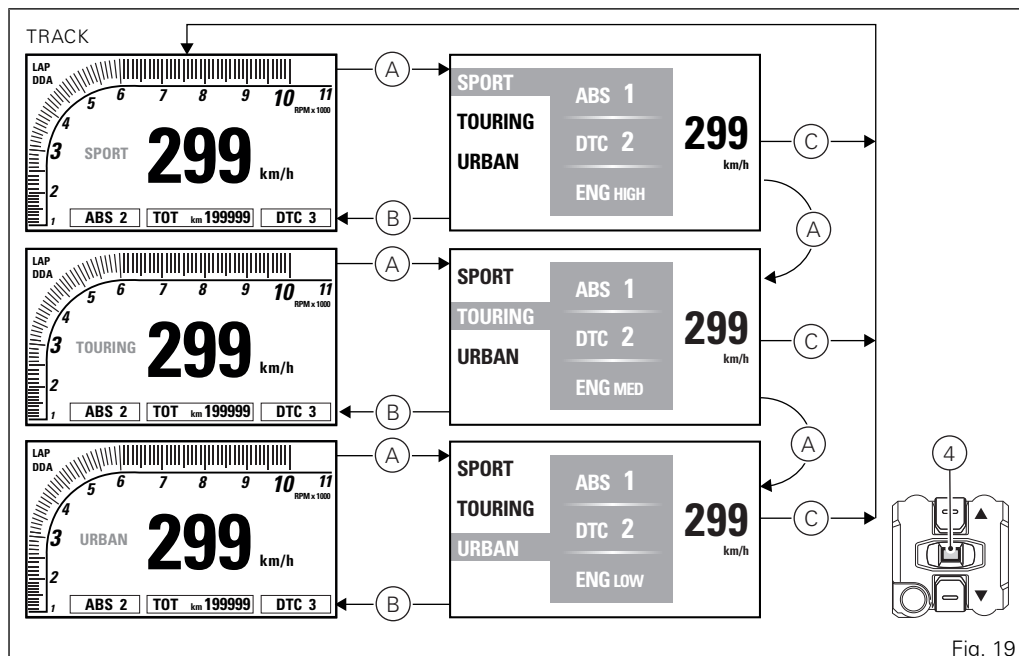

Fig. 19
Displayed information includes the values stored for each single Riding Mode. The stored settings may be the factory ones (Ducati default settings) or the ones customised by the owner. Any time CONFIRM MENU button (4) is pressed, the selected riding mode is highlighted together with the associated parameters (A, Fig. 19).
Once the desired riding mode is highlighted, confirm the selection by holding down the CONFIRM MENU button (4) for 2 seconds: the new riding mode selection is stored and the standard screen (B, Fig. 19) is displayed.
Once the desired riding mode is highlighted, if the CONFIRM MENU button (4) is not pressed within 10 seconds, the new riding mode selection is not stored and the standard screen (C, Fig. 19) is displayed.